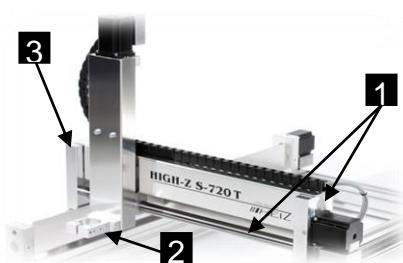

Figure 9a: Y-Carriage
- The two linear guides (Fig. 9a / 1) and the Trapezoidal Thread Spindle located on the Y-bridge (Fig. 9a / 3) and represent the Y-axis. Along the Y-Bridge is the tool holder (Fig. 9a / 2) which can be moved with a suitable tool (43H7 holder)